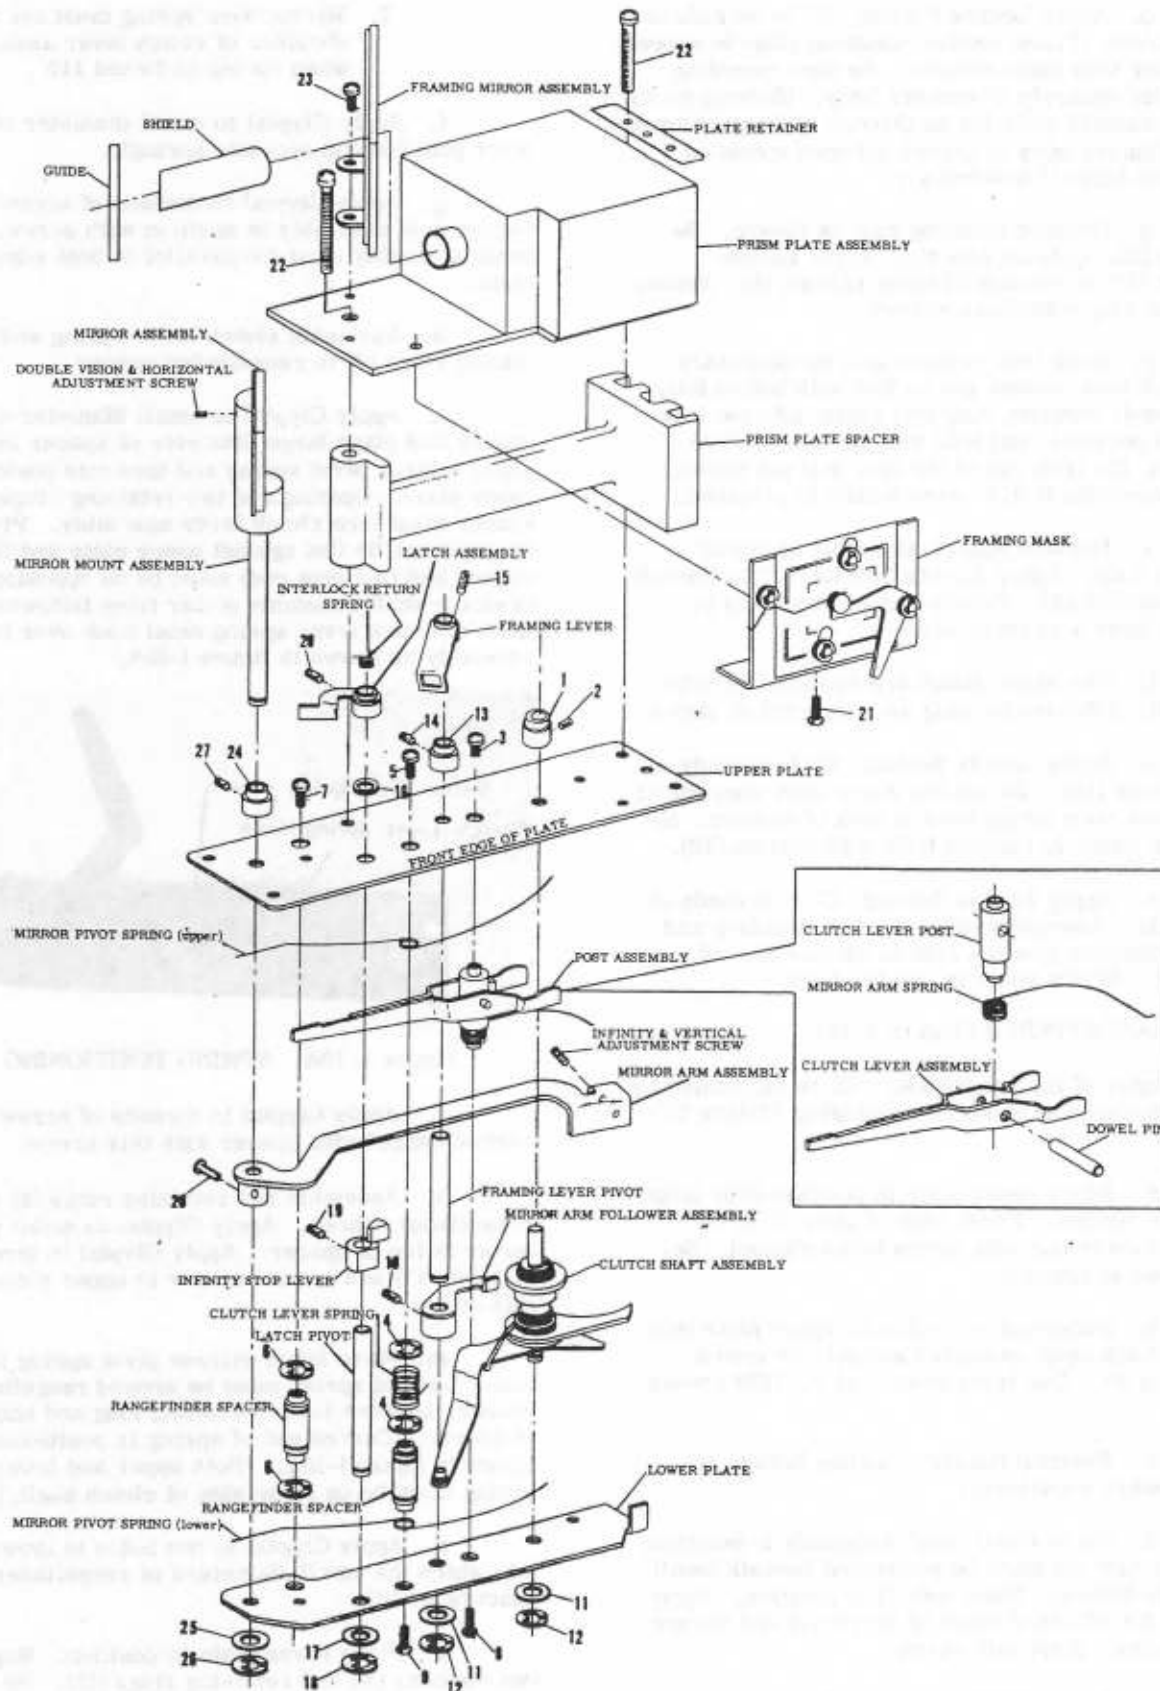
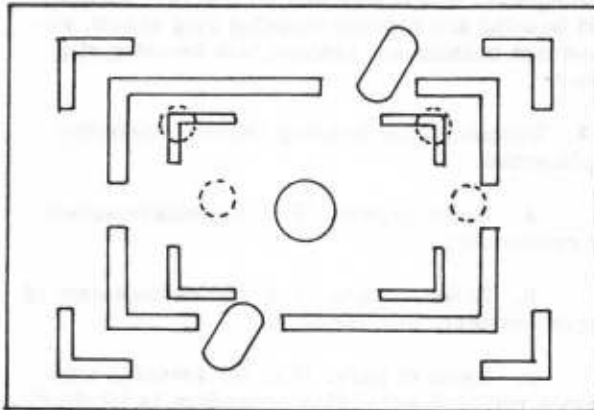
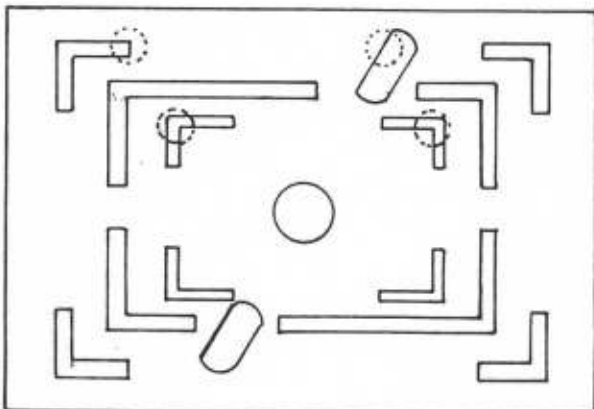
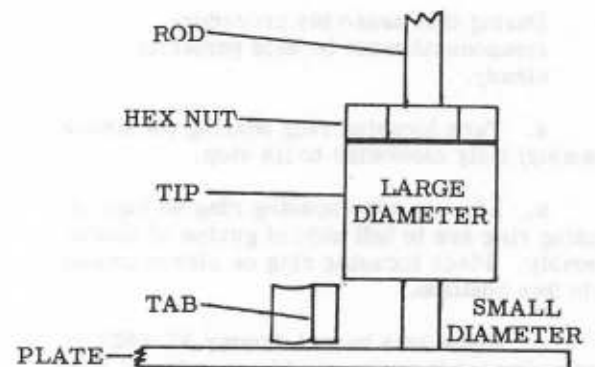

Figure 1-10. RANGEFINDER REASSEMBLY
Figure 1-11B. RANGEFINDER MASK SETTING AT INFINITY
Figure 1-11C. RANGEFINDER MASK SETTING AT FOUR FEET
Figure 1-11D. TAB SETTING
#### 6. RANGEFINDER (Figure 1-10)
y. Use Four Foot Parallax Target ST-6638, Rear Eyepiece ST-6635, and Focusing Panel ST-6640 to center framed image. Place target four feet from film plane of camera. Place rear eyepiece on rangefinder by clipping it to prism plate spacer so lens is over rangefinder spacer. Place focusing panel in position by snapping it in place just as you would a film back. The small scope will be directly behind lens of rear eyepiece. Place focusing ring at infinity position. Line up camera through lens of focusing panel. Look through lens and line it up with fine line circle at bottom of target. Move follower assembly (Figure 1-10) against arm assembly (Figure 1-10) and orient lever assembly (Figure 1-10) to center inner corners of inner square of framing mask with two upper circles of
target as shown in figure 1-11B. Focus down to four feet and center inner corners of inner square of mask with two lower circles of target as shown in figure 1-11C. If framed image will not center vertically, loosen screw (15, Fig. 1-10) and move framing lever (up or down) on pivot. Minimum tolerance of 0.010" must be maintained. Refer to para. G.6. step y. If framed image will not center horizontally, loosen two screws (23, Fig. 1-10) and move framing mirror slightly clockwise or counter-clockwise.
f. Place front cover assembly in position on top cover assembly. Apply Glyptal to threads of three screws (13).
g. Place top cover assembly in position. Apply Glyptal to threads of two screws (14). Attach top cover assembly to camera body with these screws.
i. Infinity stop lever (Fig. 1-10) should be positioned against infinity stop pin (Fig. 1-10). If not in this position, push shoulder of lever clockwise until shoulder just contacts pin. Hold in position.
j. Tab of latch assembly must be positioned as shown in figure 1-11D. Loosen screw (20, Fig. 1-10) to make this adjustment. Be sure to tighten screw after adjustment.
n. Adjust clutch release tip to set free play between tip and clutch lever assembly (Fig. 1-10) from 0.005" to 0.010". This is accomplished by moving tip and hex nut up or down on clutch release rod.